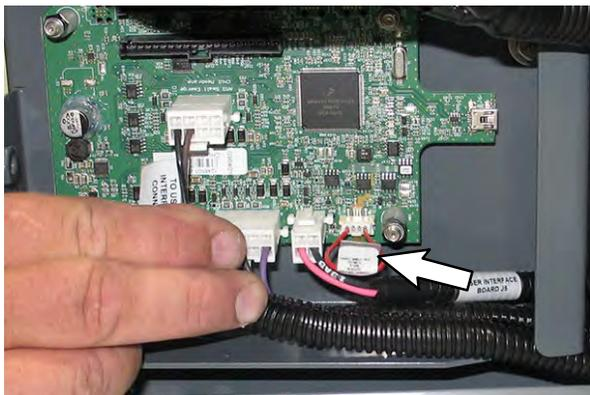

FIG. 26
16. Connect the digital pot 5V enable electrical harness (16) to the communication board (13) J4 terminal. (Fig. 26)